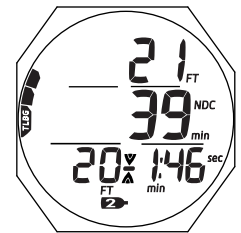

Fig. 73 - SS MAIN
**SAFETY STOP MAIN**, information includes (Fig. 73):